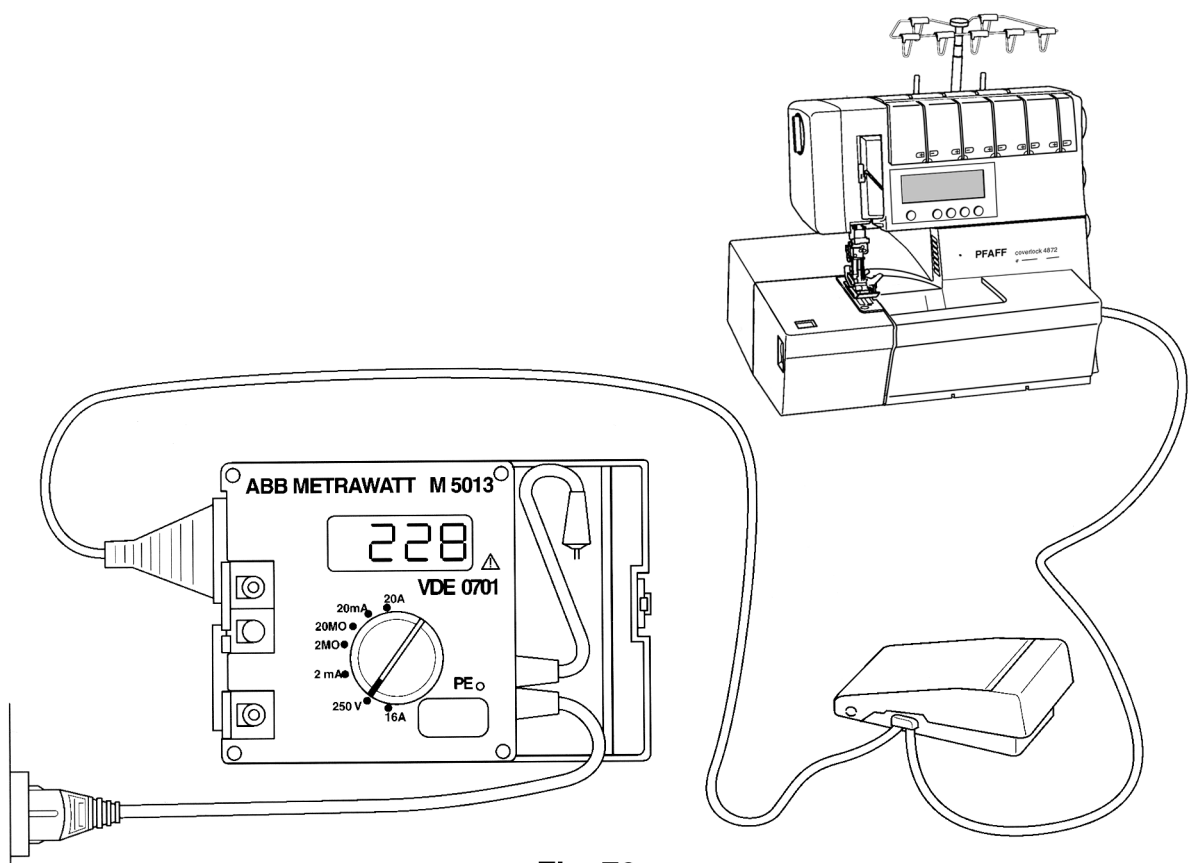

Fig. 70
- Set the switch for the measuring range at "250 V" (figure 70). If there is mains voltage present, the LCD display shows how much (230 V +/- 10%).